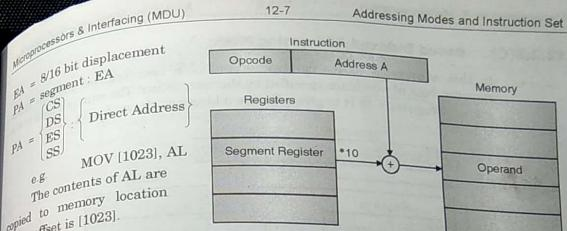

Fig. 12.2.4 : Direct addressing
12.2.3(A) Direct Memory Addressing Mode
- In this mode, the 16-bit effective address EA is taken from the displacement field of the instruction. The physical address is generated by adding this to segment register * 10 H as shown in the Fig. 12.2.4.